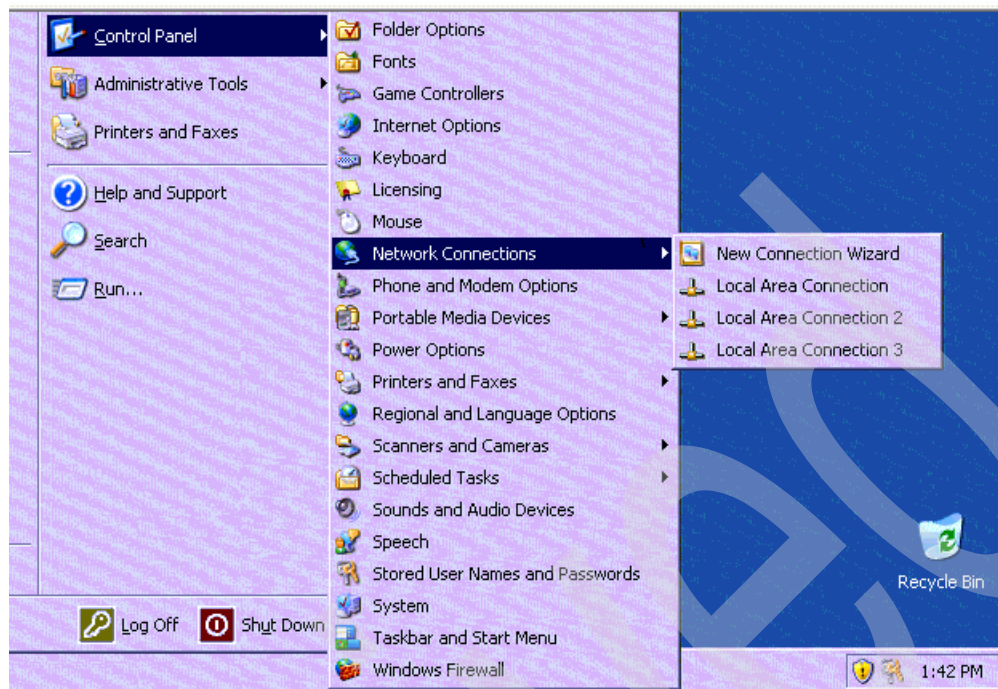

Figure 4-60 Verifying which LAN connections were installed
- i. Click **START** → **Expand All Programs** → **Control Panel** → **Network connections** to display the network connections that installed. In Figure 4-60 on page 95, there are three displayed because we installed an additional Virtual Ethernet adapter, so we have a connection for the QLogic (iSCSI adapter), the Virtual Ethernet point-to-point, and the Virtual Ethernet that we created additionally.